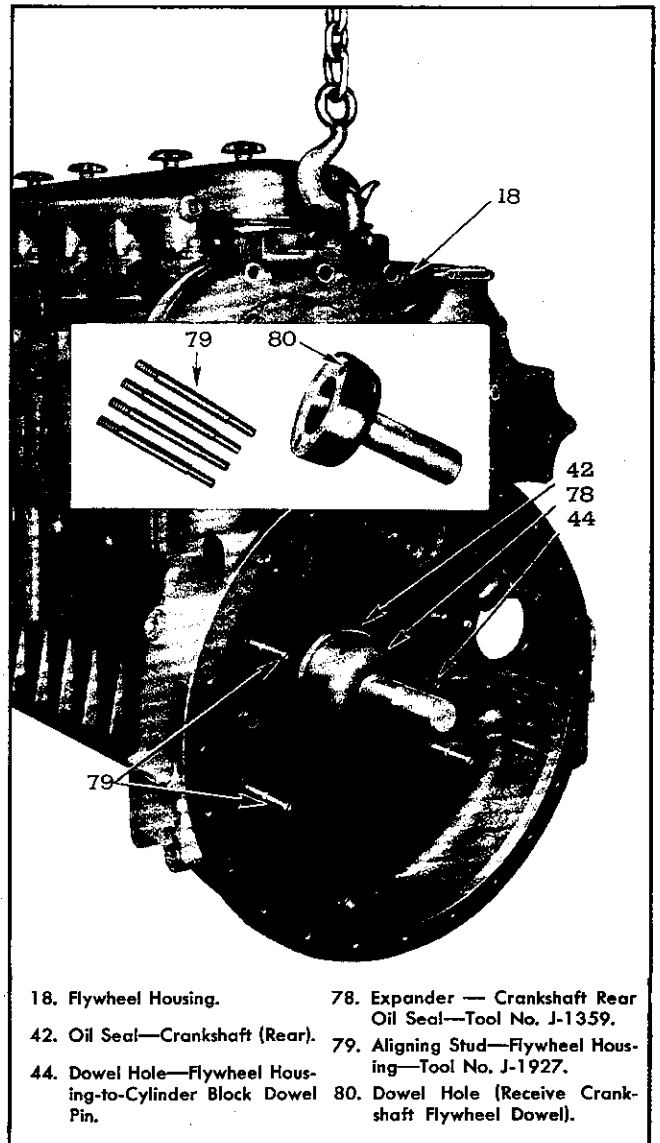

Fig. 3—Installing Flywheel Housing, Using Tools J-1359 and J-1927, to Expand Oil Seal and Pilot Housing to Position, Respectively.
8. Refer to Fig. 3 for use of guide tools and install the flywheel housing as follows: